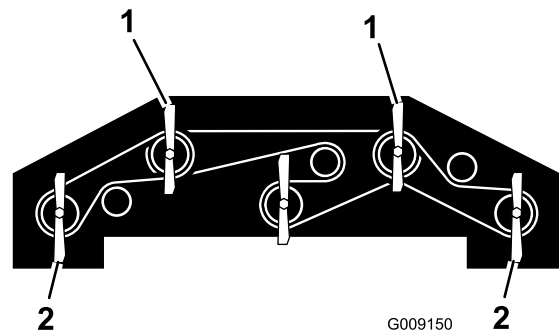

Figure 94
1. Rotate the 2 outer front blades and the winglet blades so that they point straight forward (Figure 94).